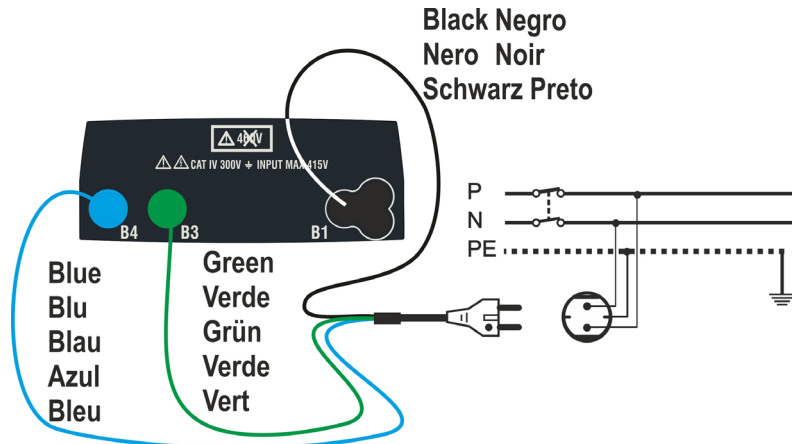
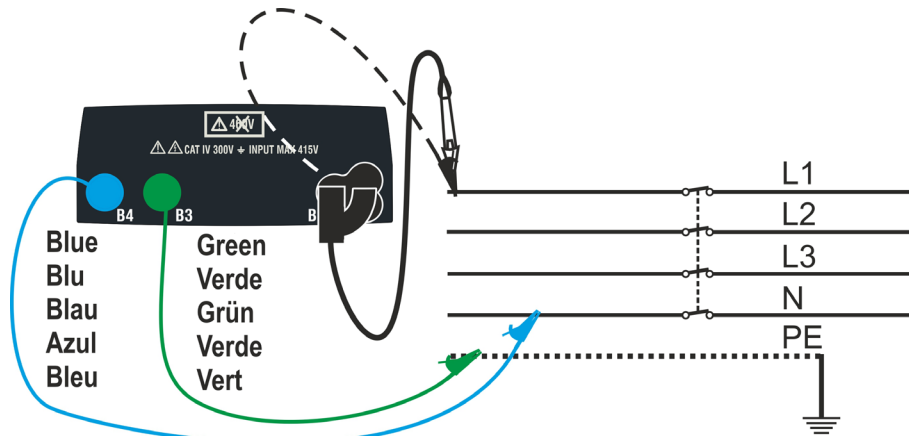

Fig. 6: Instrument connection through mains plug
Fig. 7: Instrument connection by means of single cables and remote switch probe
2. Insert the green, blue and black connectors of the three-pin plug cable into the corresponding inputs B1, B3 and B4 of the instrument. As an alternative, use the single cables and apply the relevant alligator clips to the free ends of the cables. It is also possible to use the remote switch probe by inserting its multipolar connector into the input B1. Connect the plug, the alligator clips or the remote switch probe to the electrical mains according to Fig. 6 or Fig. 7.